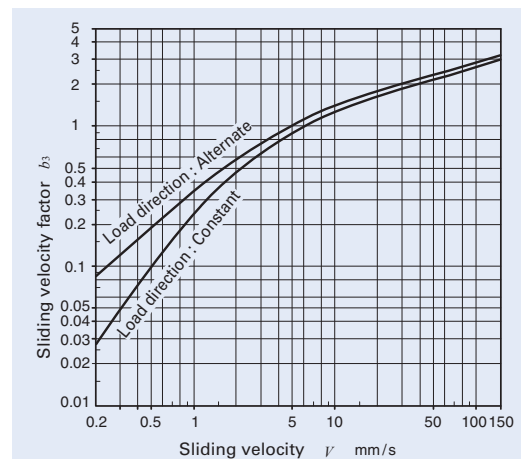

Fig.3 Sliding velocity factor
- $b_3$  : Sliding velocity factor (Refer to Fig.3.)